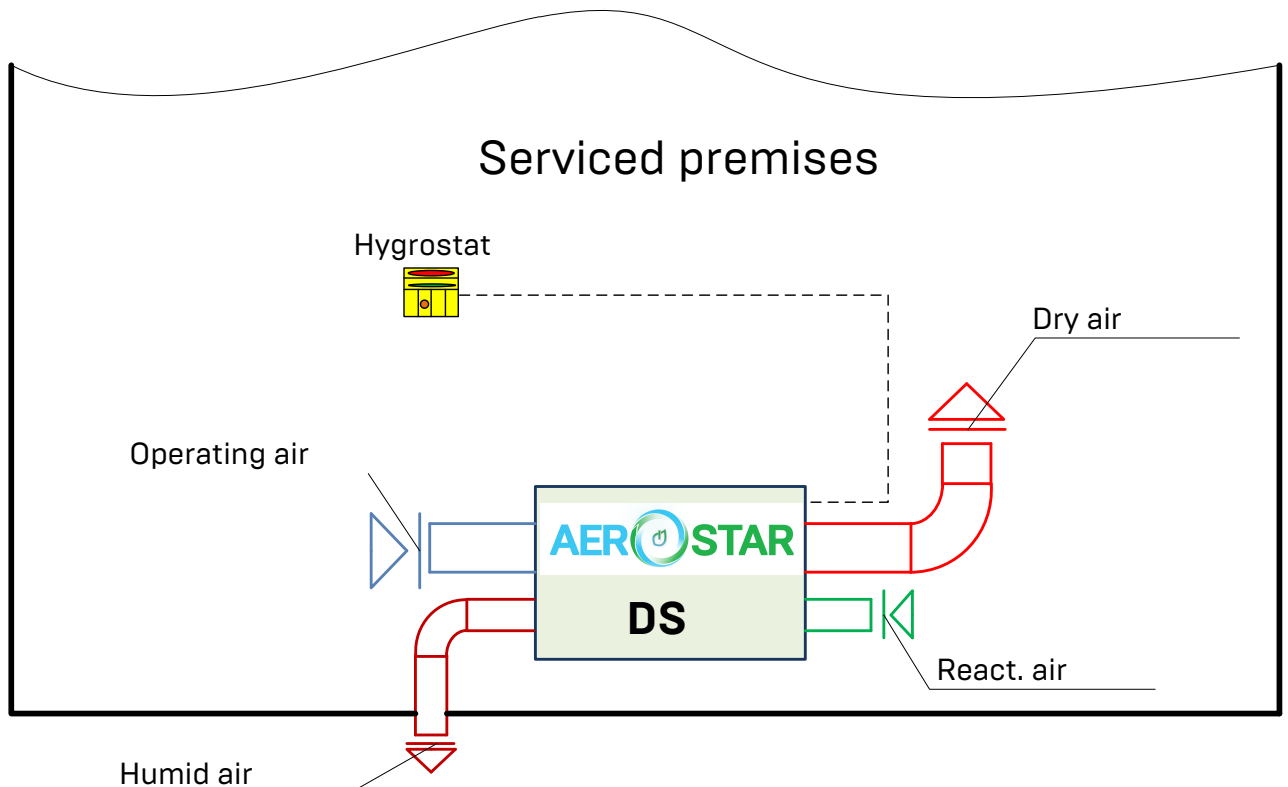

Figure 4.7 - Operation of the dehumidifier in the "drying" mode (internal version)
- ✓ operation of the dehumidifier according to the "closed" scheme in the "drying" mode - see Figure 4.7.
Figure 4.7 shows the internal design of the dehumidifier when operating in the recirculation mode with reactivation air intake from the room (room "drying" mode). This option justifies itself, for example, in cases of using the unit for dehumidification of premises after flooding, or before finishing work.